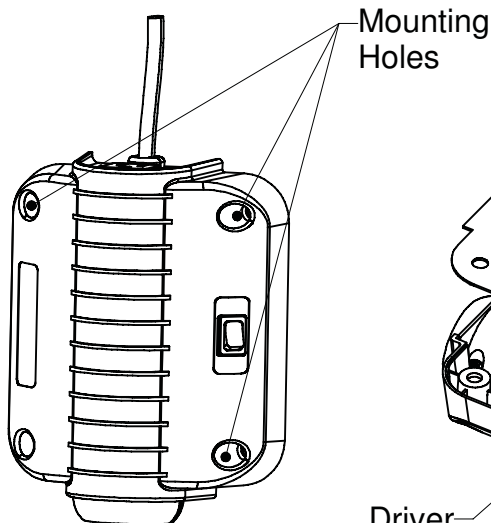

Fig. 3
- 1) Remove "Dock Light" from wall or column. (See Fig. 3)